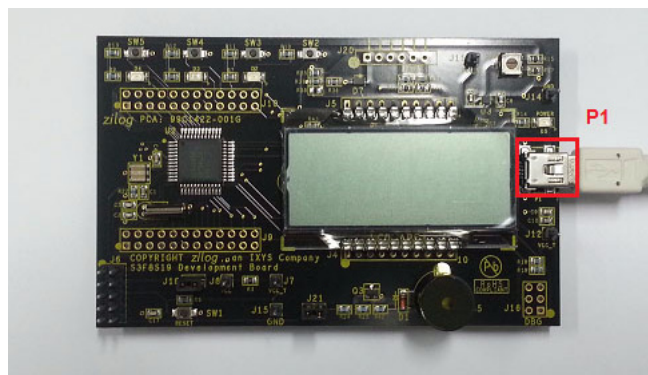

Figure 5. Power Supply Port P1 Connector
4. With the USB A (male) to Mini-B cable, connect Port P1 on the S3F8S19 Development Board to a USB port on the Development PC to apply power to the Development Board, as indicated in Figure 5.